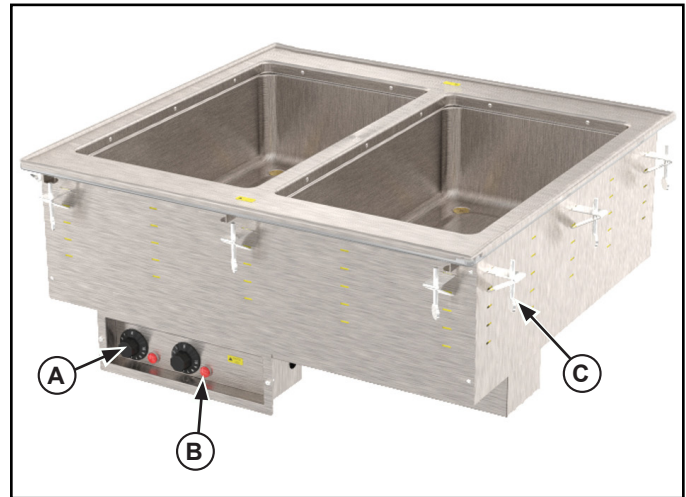

Figure 1. Features and Controls.
5. Tighten the thumbscrews (C) slowly and in an alternating pattern to evenly compress the gasket. See Figure 1. The gasket should create an even gap between the well and the mounting surface.
1. Check the drain valve(s) (D) to verify it is in the CLOSED position to prevent water from draining out. See Figure 1. The valve is in the CLOSED position when the handle of the valve forms a "T" with the body of the valve.
4. Preheat the water in the wells by covering wells with empty food containers or covers. Turn the temperature control (A) to the maximum heat setting. Preheat for 60 minutes.